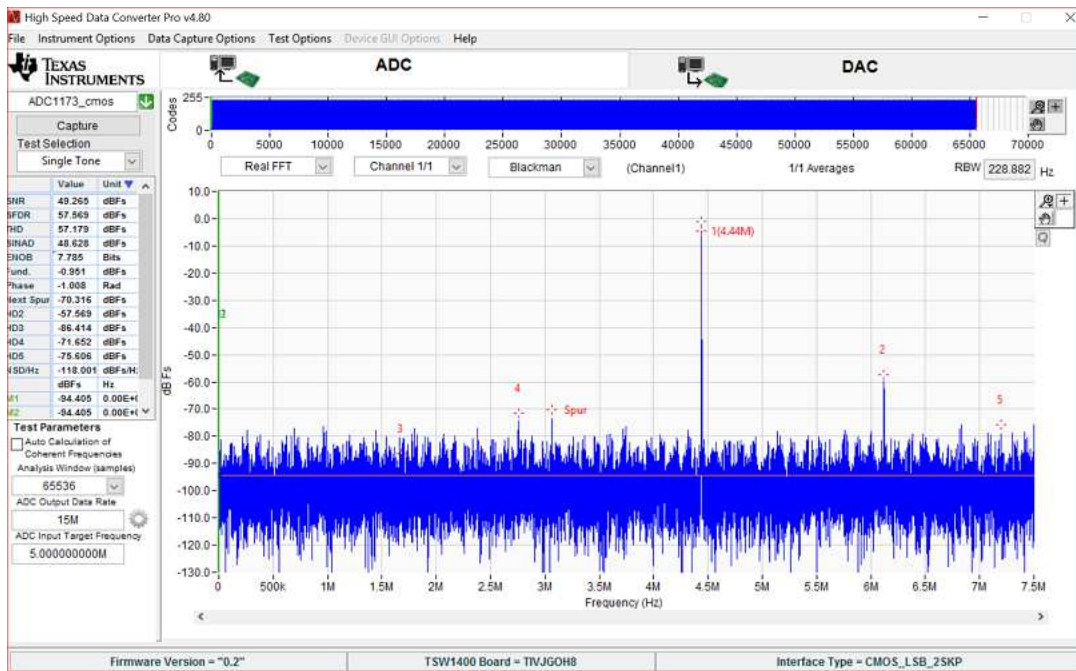

Figure 4. ADC1173 Data Capture Using the HSDC Pro GUI
5. Click the *Capture* button. The results of the captured data should look like that of Figure 4, and the performance should be similar to that of Table 1.